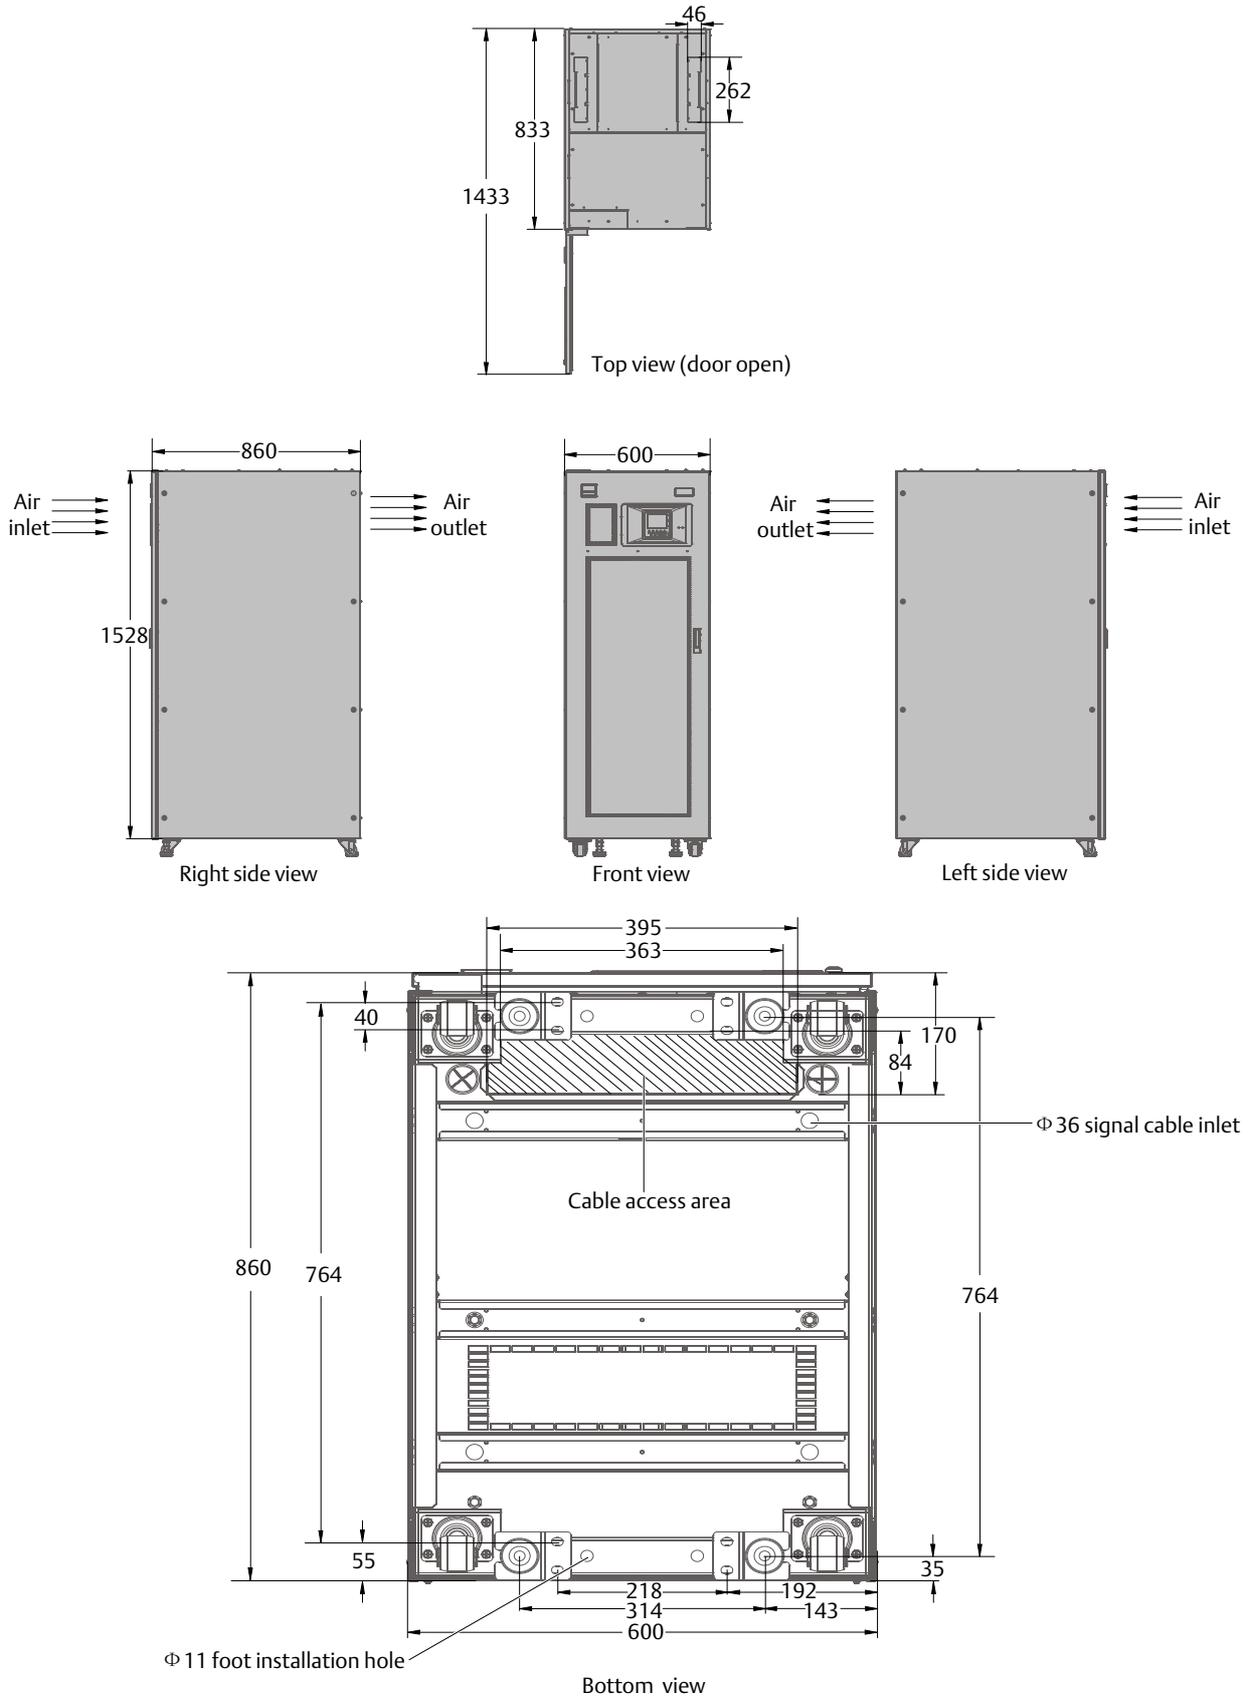

Figure 2-7 Top/front/side/bottom view of the UPS (unit: mm)
4. Align the foot fixing pieces with the pre-prepared installation holes, in with the dimensions indicated in Figure 2-7.
Figure 2-7 illustrates the key mechanical characteristics of the UPS.